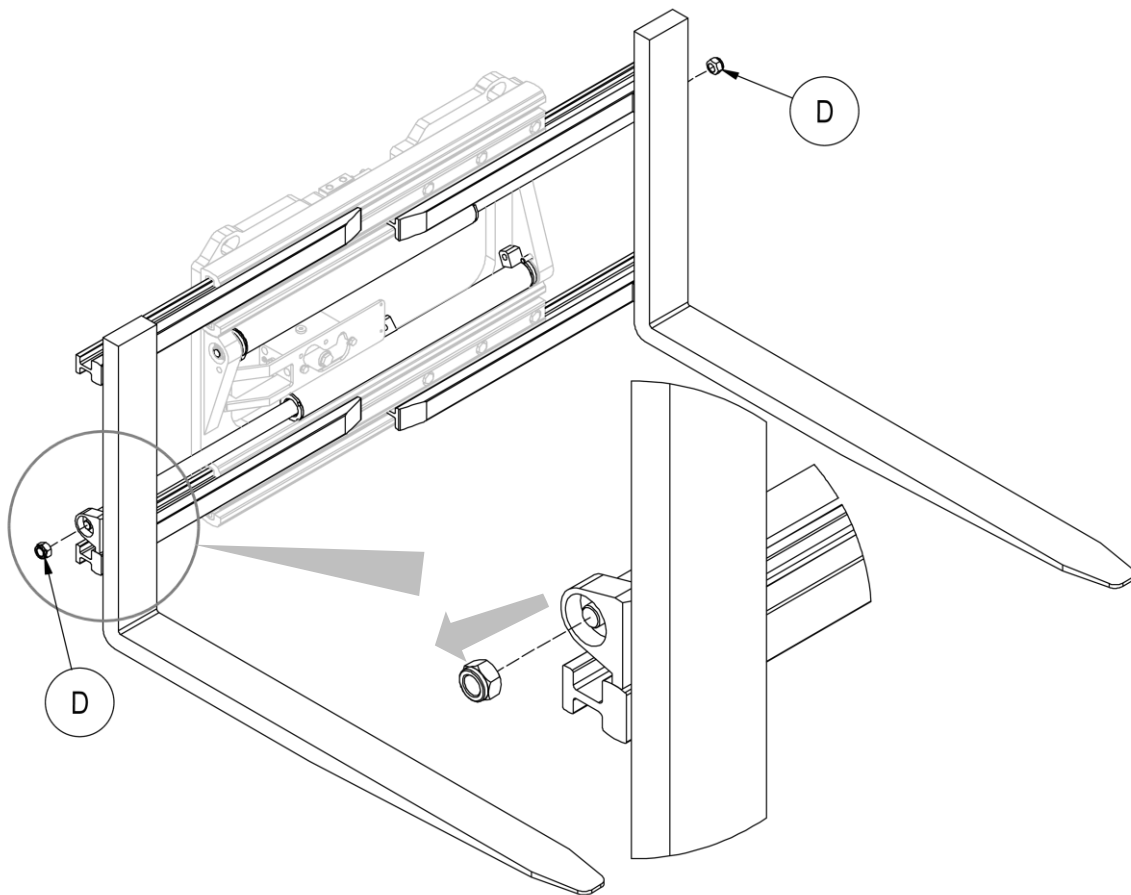

Figure 28
3. Remove the nuts **D** that secure the cylinders to the forks (see *Figure 28*).